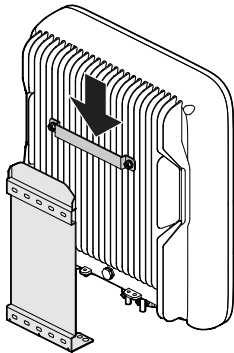

Figure3-11 Hang the inverter to installation holder
Step 5 Uplift the inverter and hang the inverter to the installation holder, as shown in Figure3-11.